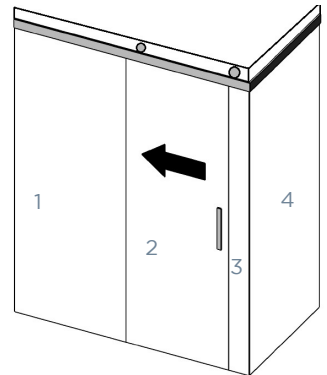

FIG.5
- When panels are correctly aligned, remove panel 1 (FIG5) and run a thick continuous line of silicone down the inside of the wall channel (FIG 6) and apply liberally in the wall to floor channel join and along the floor channel to the length of the glass panel.